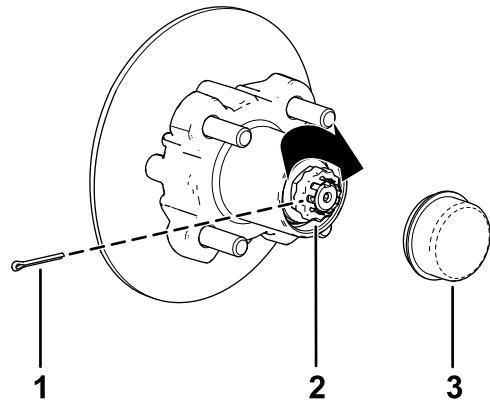

Figure 34
8. Install the retainer over the nut and check the alignment of the slot in the retainer and the hole in the spindle for the cotter pin (Figure 34).
9. Install the cotter pin and bend each legs around the retainer (Figure 34).
10. Install the dust cap onto the hub (Figure 34).